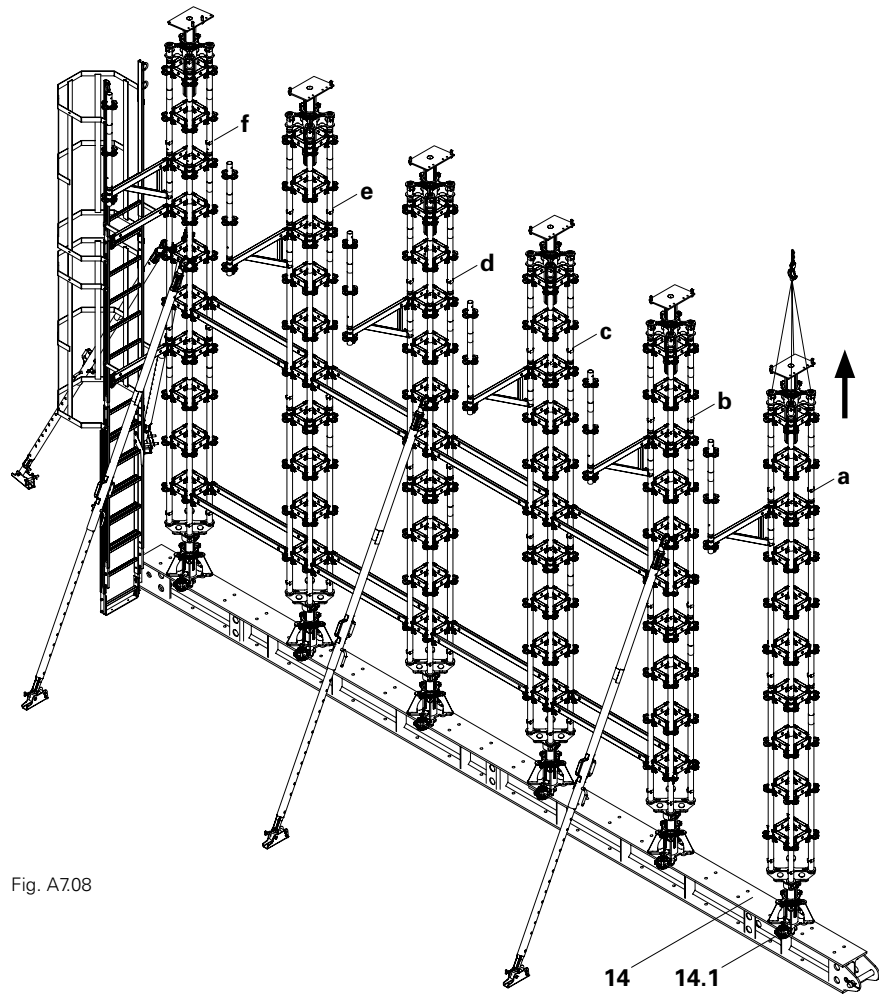

Fig. A7.08
1. Wrap textile straps around the Head Spindle TR (2) of the Heavy-Duty Props HD (a to e) ensuring that they do not slip and lift them slightly with the crane lifting gear. (Fig. A7.08)
5. Remove both girder clamps (4.2) on the bottom Main Beam HDT (14) of the HD Props (a to e).